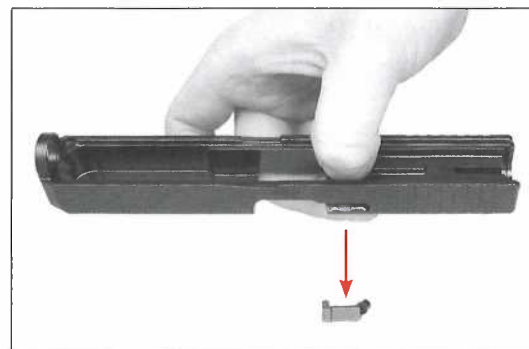

Fig. 202
- Orient the slide so the extractor is facing downwards. Then, pressing inward on the firing pin safety with your finger or punch should release the extractor. You may need to push on the extractor if it doesn't fall freely. (Fig. 202)